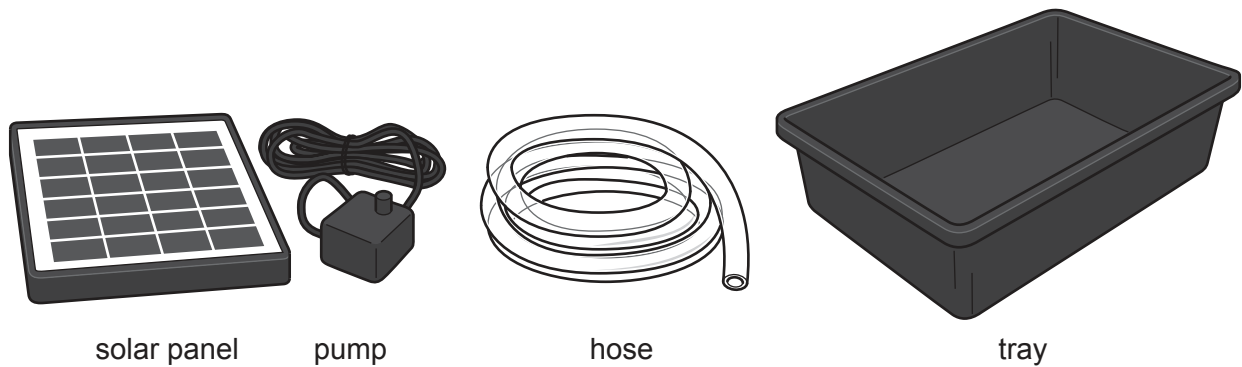

Fig. 9.1
- 9 Fig. 9.1 shows the parts of a solar powered circulatory system for a garden water feature. The water is pumped out of the tray, through the hose to the feature and then falls back into the tray.